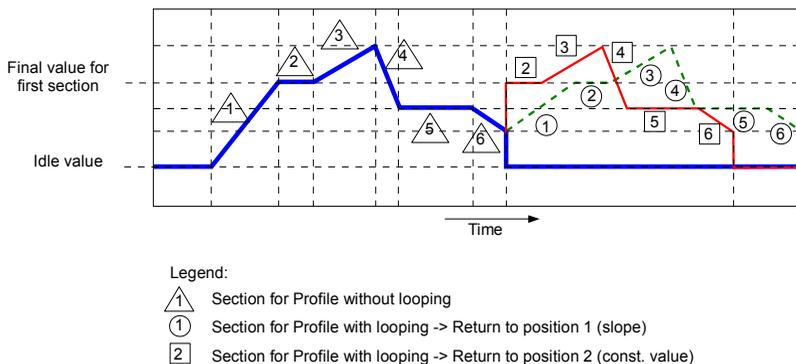

Fig. 7.100. Sample of Profile/timer with description of parameters
- if the section from which begins the next repeat Profile/timer is a **ramp**, then in the whole duration of this section is linear generating the output signal from the **final value** of the previous section to **final value** of this section. This is shown in **Fig. 7.100** (dashed line-run profile)
- if the section from which the next repeat of the Profile/timer begins is a constant value, then Profile signal quickly transient (0.1 seconds) from the **final value** of the previous section to a **constant value** in this section. This is shown in **Fig. 7.100** (profile guided fine line).